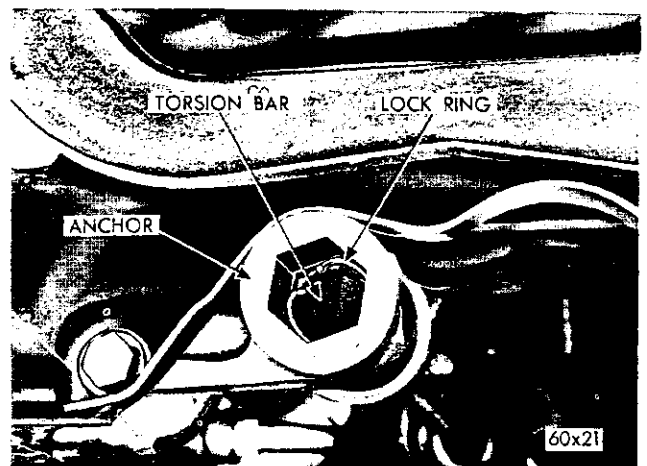

Fig. 6—Torsion Bar Lock Ring
(3) Remove the plastic seal from the rear end of the torsion bar anchor. Remove the lock ring from the rear of the torsion bar anchor (Fig. 6).
(4) Slide the torsion bar toward the rear of the